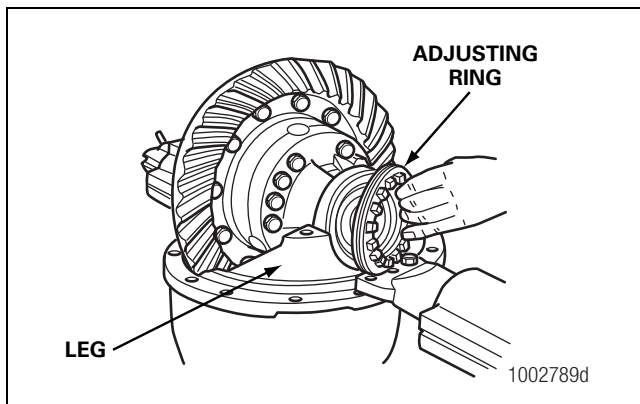

Figure 5.52
6. Install both of the bearing adjusting rings into position between the carrier legs. Turn each adjusting ring hand-tight against the bearing cup. Figure 5.52.